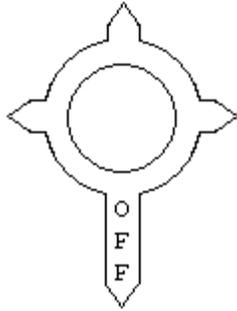
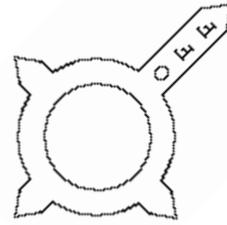

Figure II-1. Luer Lock position to CLOSE that particular line but leave the main line open.
Figure II-2. Luer Lock position to CLOSE that particular line and all “downstream” lines.
- A particular line is CLOSED when the Luer Lock “OFF” tab is pointed down (Figure II-1) or at a 45° angle to the main line (Figure II-2)
- x. Close all Luer Locks *and* the main line in order from Line 20 to 1 (the “off” tabs should be at a 45° angle to the main line; Figure II-2).